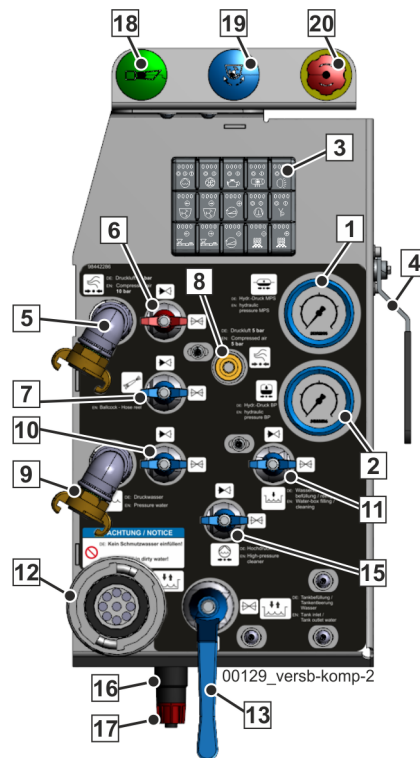

Fig. 49 Supply control
If the machine is equipped with a “C” water connection (12) (**Fig. 49**), exercise appropriate care when using it to fill the water case!
2. Connect the water supply to the water connection (12) (**Fig. 49**) and open the gate valve (13).